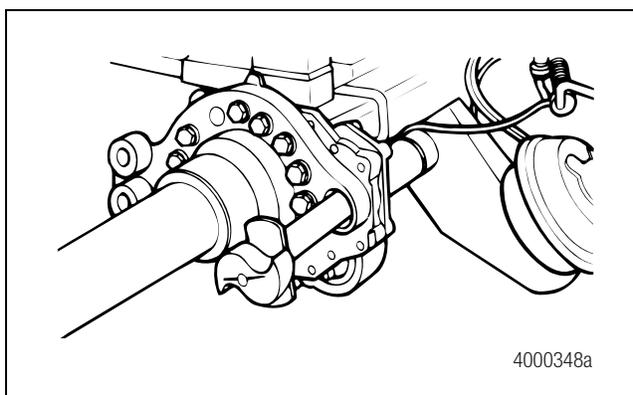

Figure 5.18
5. Place the cam head thrust washer onto the camshaft. Apply Meritor specification O-617-A or O-617-B grease to the camshaft bushings, camshaft journals and camshaft seal lips. Install the camshaft assembly through the spider and bracket. The camshaft should turn freely by hand. Figure 5.18.